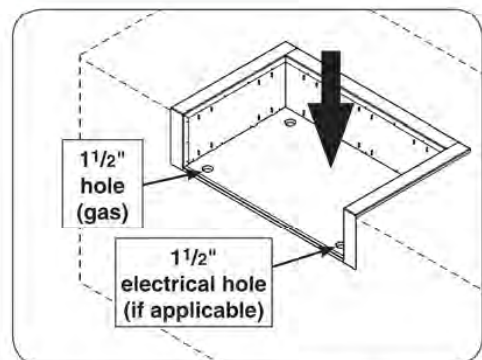

Fig. 3-3 Install insulating liner
1. Install the insulating liner as shown in Fig. 3-3.
See Fig. 3-3 for hole locations. Use the insulating liner holes as guides. Remove knock-outs as needed.